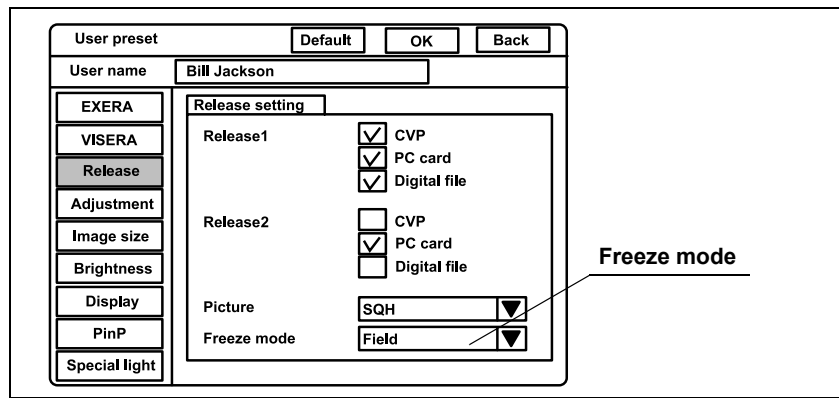

Figure 9.20
1. Click “▼” of “Freeze mode” (see Figure 9.20). The freeze modes appear in the pull-down menu.